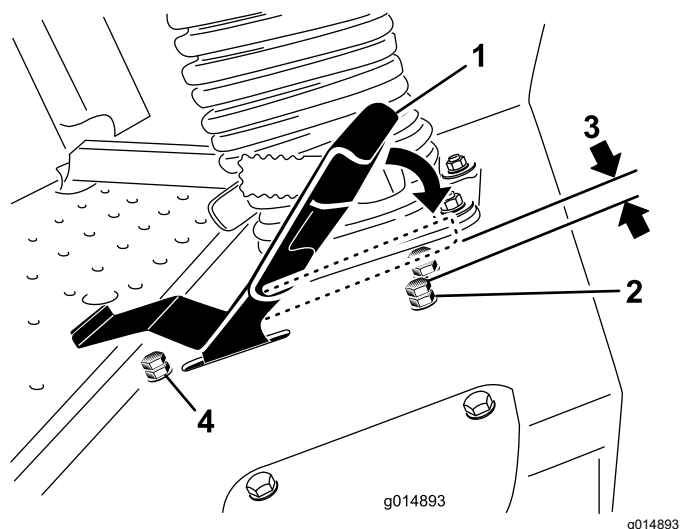

Figure 49
- Loosen the jam nut on the stop bolt for the traction pedal (Figure 49).